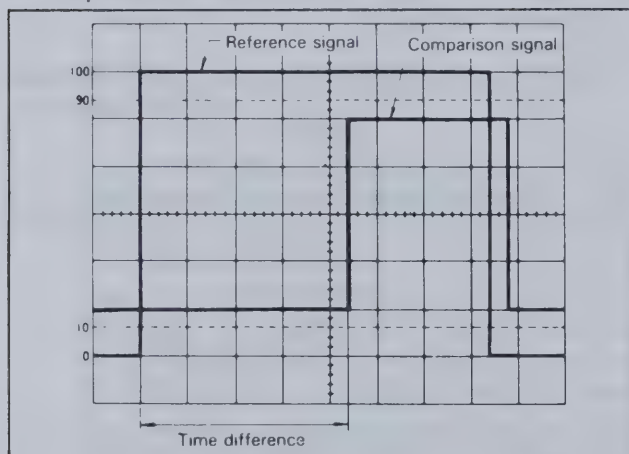

Fig. 17. Time Difference Measurement.
(Refer to Fig. 17)
1. Apply the two signals to the **CH 1 (X)** and **CH 2 (Y)** input jacks and select the dual-trace display mode.
3. Use the \blacktriangleleft **POS** controls to superimpose both waveforms to intersect the center horizontal graduation line as shown in Fig. 17. Use the \blacktriangleright **POS** control to set the reference signal coincident with one of the vertical graduation lines.
For the example shown in Fig. 17, the horizontal distance measured is 4.4 divisions. If the **TIME/DIV** is 0.2 ms and **X10 MAG** is not used, the time difference is calculated as follows: